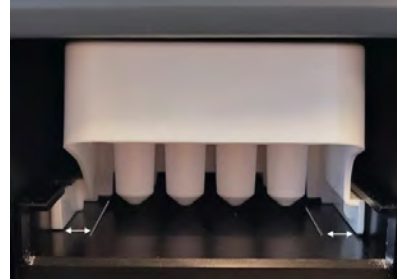

Figure 30: Ensure imaging tray is properly loaded
- Ensure that the imaging tray is properly loaded. When loading, slight resistance will be felt, continue pushing until tray is fully inserted. Tray is fully inserted when imaging tray legs line up with the internal grooves found in the imaging tray bay (see Figure 30).